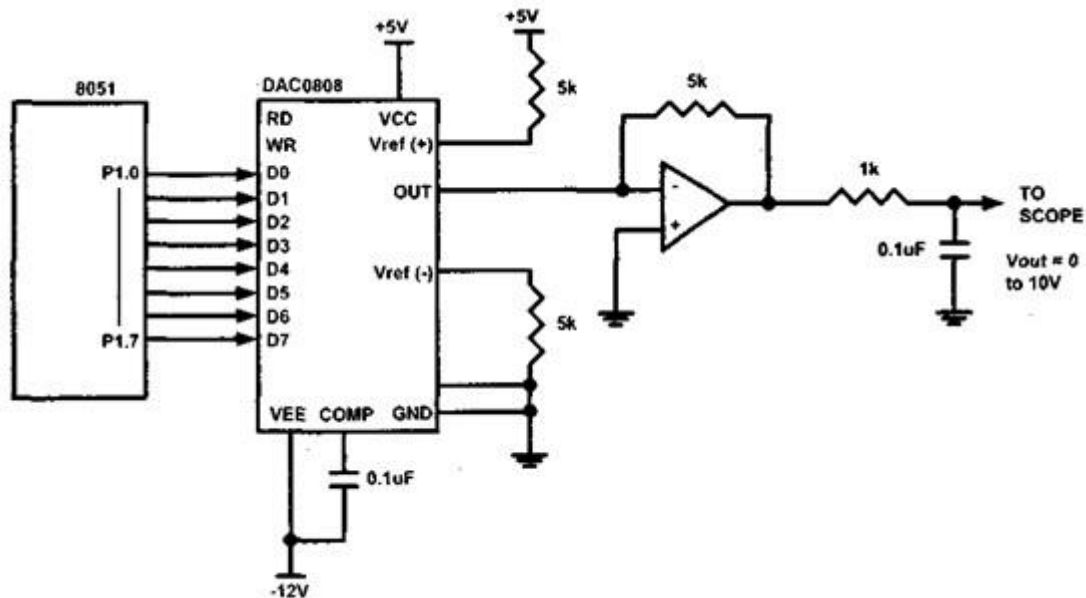

Figure 5.12 8051 Connection to DAC0808 **Example**
- The 8051 connection to DAC0808 is as shown in the below figure 5.12.
Inorder to generate a stair-step ramp, set up the circuit in figure 5.12 and connect the output to an oscilloscope. Then write a program to send data to the DAC to generate a stair-step ramp.